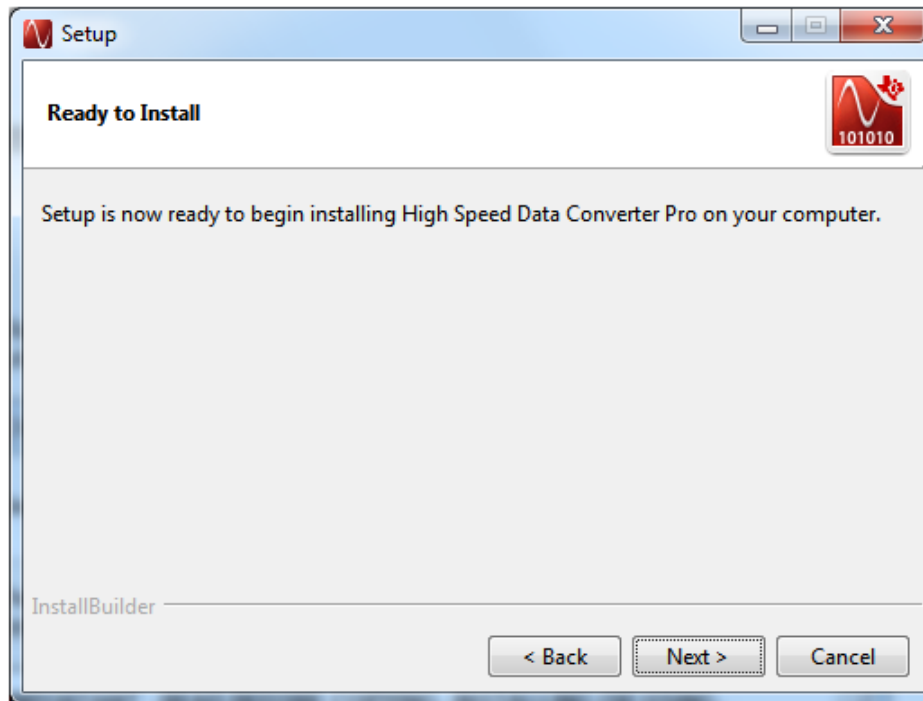

Figure 29. HSDCPro Install (Installation Ready)
6. Click *Next* to begin the installation, as in Figure 29.